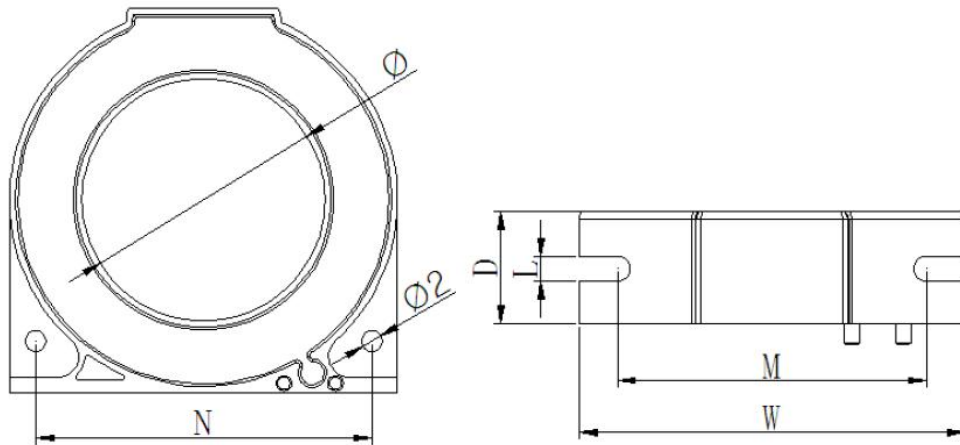

Figure 7 The external dimensions of leakage current transformer
5.3.3 The external dimensions of leakage current transformer are shown in figure 7 and table 5 (Unit: mm):